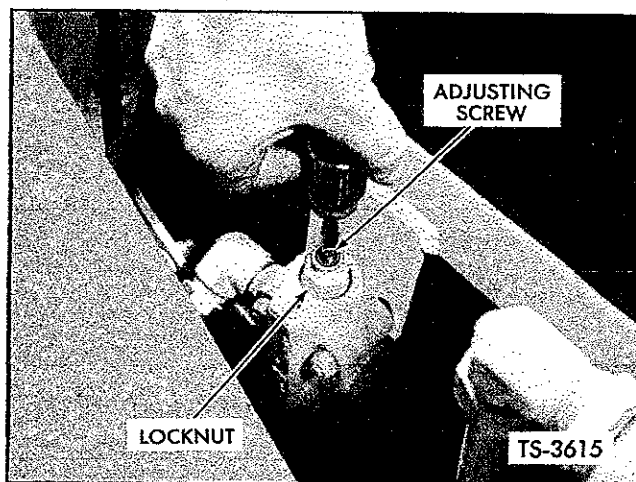

Fig. 45. Adjust Pressure — Steering Relief Valve
4. If reading is not as specified, remove acorn nut on valve, and loosen locknut. Insert screwdriver and turn clockwise to increase pressure, counterclockwise to decrease pressure. See Figure 45. Turn screw in increments of approximately one revolution or less, set locknut, and retake reading. Repeat until gauge reads 1000 psi.